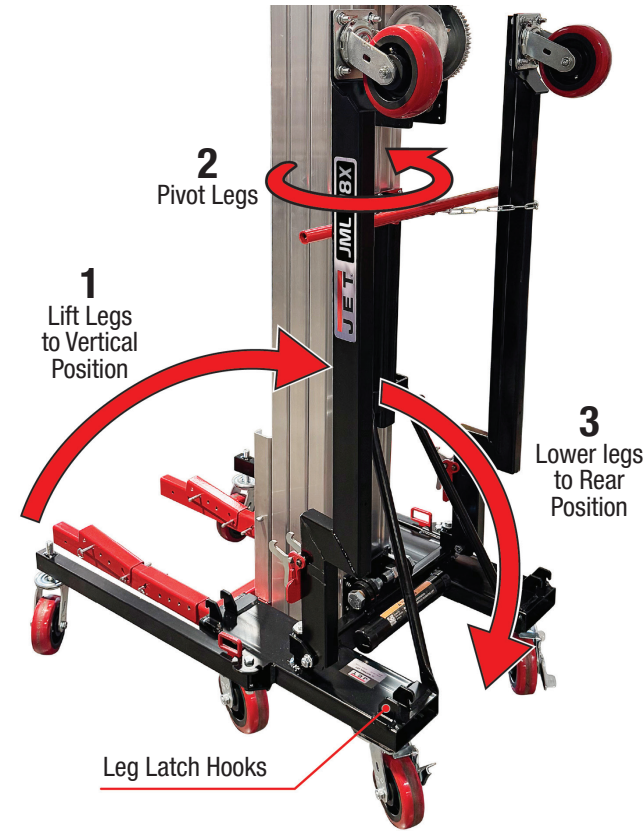

Figure 7-9: Positioning Legs to Rear Position
Carefully lift each leg to the vertical position (1) and pivot each leg 180-degrees (2). Carefully lower the legs to the rear position (3), until the caster wheels touch the floor. The leg tubing must be placed between the leg latch hooks (see Figure 7-9).